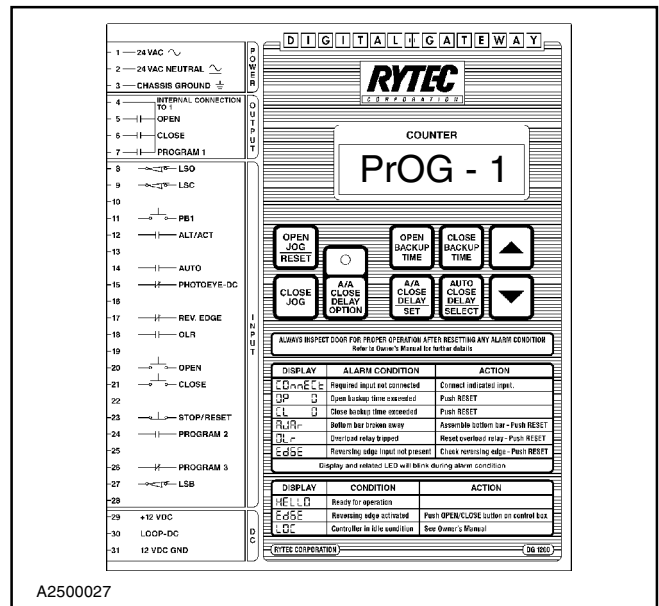

Figure 21
3. Once you have entered the program mode the display will show the various program menus. (See Figure 21.) Press the Select button to scroll through the programs.